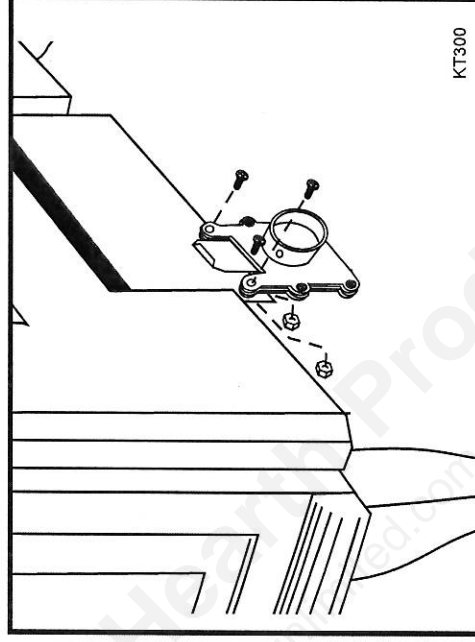

Fig. 10 Attach the adapter.
3. Fasten the assembly to the sheet metal panel as shown in Figure 10, with the two bolts removed previously.